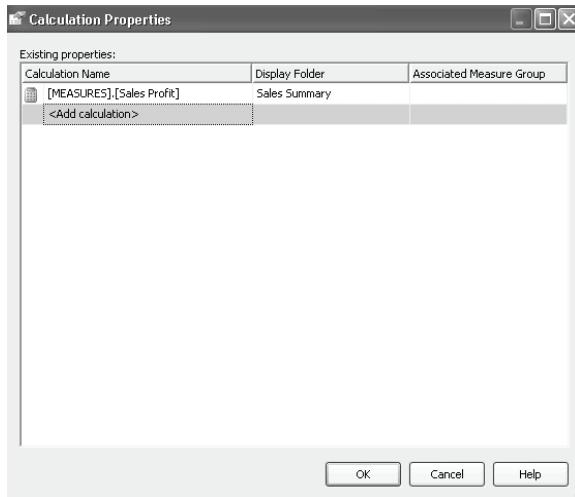

Figure 9.16 Use display folders to organize calculated members that are logically related.
2. Click on the Calculation Properties toolbar button to launch the Calculation Properties dialog (Figure 9.16). The Calculation Properties dialog applies to all measures, so there is no need to select the Sales Profit measure before displaying the dialog.